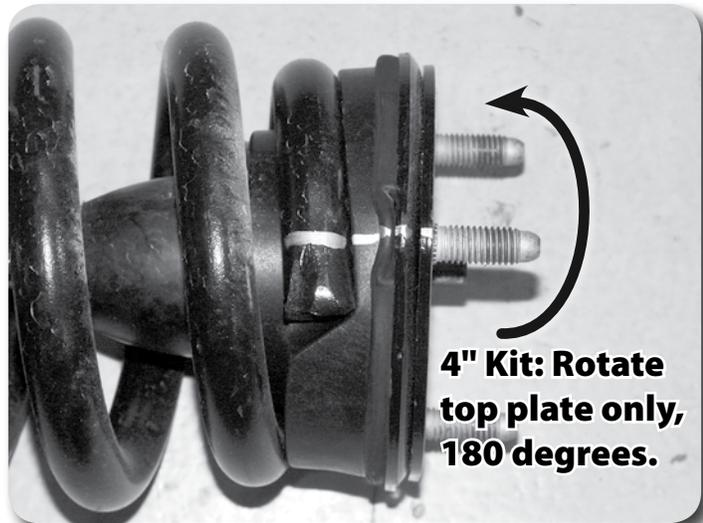

Figure 17
45. **4 inch kits only:** The upper strut mounting plate must be rotated 180 degrees. Make an indexing mark on the coil at the top winding by the stud that faced 'out' on the vehicle. Place the coil in a strut compressor and rotate the top 180 degrees. The stud will still face out on the vehicle when reinstalled. This step rotates the buldge in the coil to give enough clearance. This step is not necessary for the 6 inch kits. Figure 17